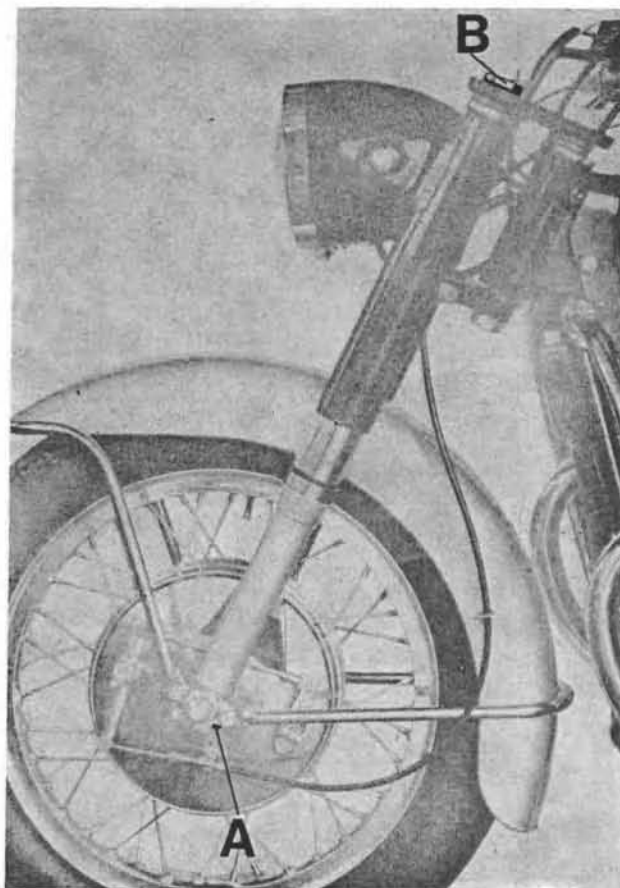

Fig. 102
- drain oil from dampers (after stripping down fork, oil can be drained by removing drain plugs (see A on Fig. 102) from both fork covers).
- thru filling plug (see B on Fig. 102) pour into each fork tube 0.160 liters 5.4 oz.) of « SHELL Tellux 33 » oil.